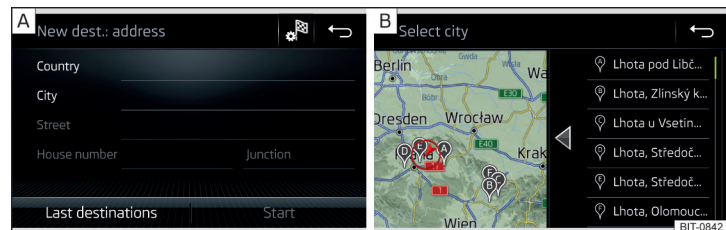

Fig. 218 Enter destination using the address: Main menu / List of visited destinations
- Enter the destination address and then confirm » Fig. 218 - **A**.
Depending on the number of places visited, a map with a list of visited places can be displayed automatically » Fig. 218 - **B**.